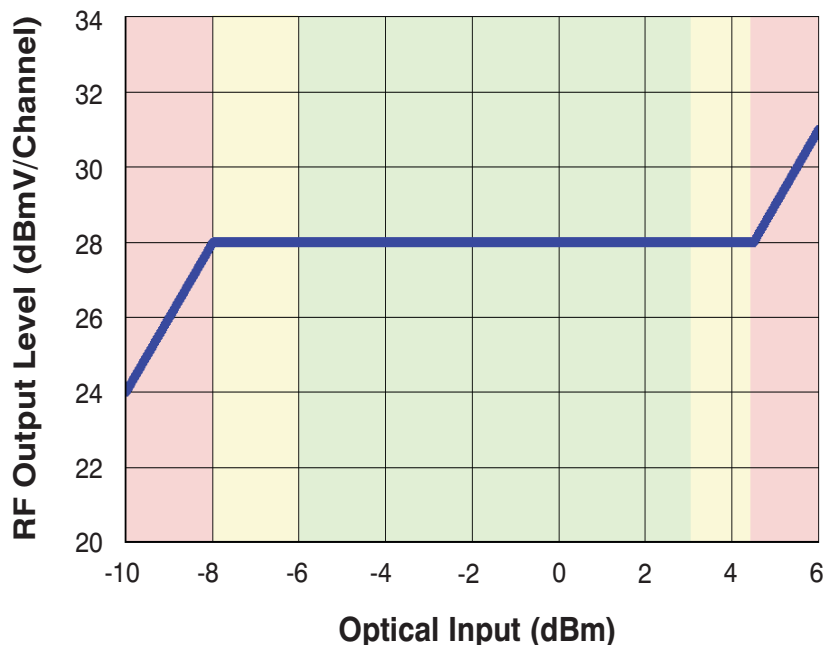

Figure 1.1 RF Output Level Behavior of 2808R
- Figure 1.1 shows the RF output behavior of the 2808 receiver. The blue line shows the nominal RF output level versus optical input. Over the optical input range from -8 dBm to +4.5 dBm, the RF output level is adjustable to be a constant +28 dBmV. Below -8 dBm optical input, the RF output level falls off by 2 dB for every 1 dB drop in optical input power. Operating below -8 dBm optical input will cause the CNR to degrade rapidly for channel loads of 77 or more. Above +4.5 dBm optical input, the RF output level increases by 2 dB for every 1 dB drop in optical input power. Force, Inc. does not recommend operating the 2808R at RF output levels above +28 dBmV per channel. It will not cause damage to the unit, but the video out may be severely distorted, exhibiting poor CTB and CSO.
In Figure 1.1 the central green area is the region that should be used for new designs. So while the receiver is rated to optical input powers as low as -8 dBm, it is recommended that -6 dBm be the minimum for a newly installed system. That leaves 2 dB of margin for the optical power to drop and still provide good operation. The yellow region is the safety band. The unit is rated to operate in this region; however, the margin will probably be inadequate for a newly installed design. The red regions are outside the recommended operating parameters of the 2808R and must be avoided to ensure reliable operation.